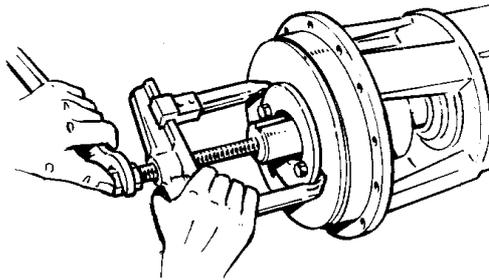

Fig. 5
6. Pull the cartridge from the casing cover using a puller, see Fig. 5. Take care that the threads in the shaft end are not damaged.
4. Pull the cartridge from the casing cover using a puller, see Fig. 5.
4. Pull the cartridge from the casing cover using a puller, see Fig. 5. Take care that the threads in the shaft end are not damaged.